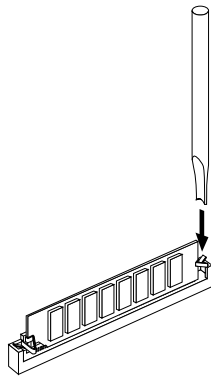

Figure 3-15 Removing a SIMM
- Use the SIMM removal tool that came with your SIMMs. Place the flat side of the tool against the side of the SIMM (as shown in Figure 3-15) and press down on the latches on each side of the SIMM.